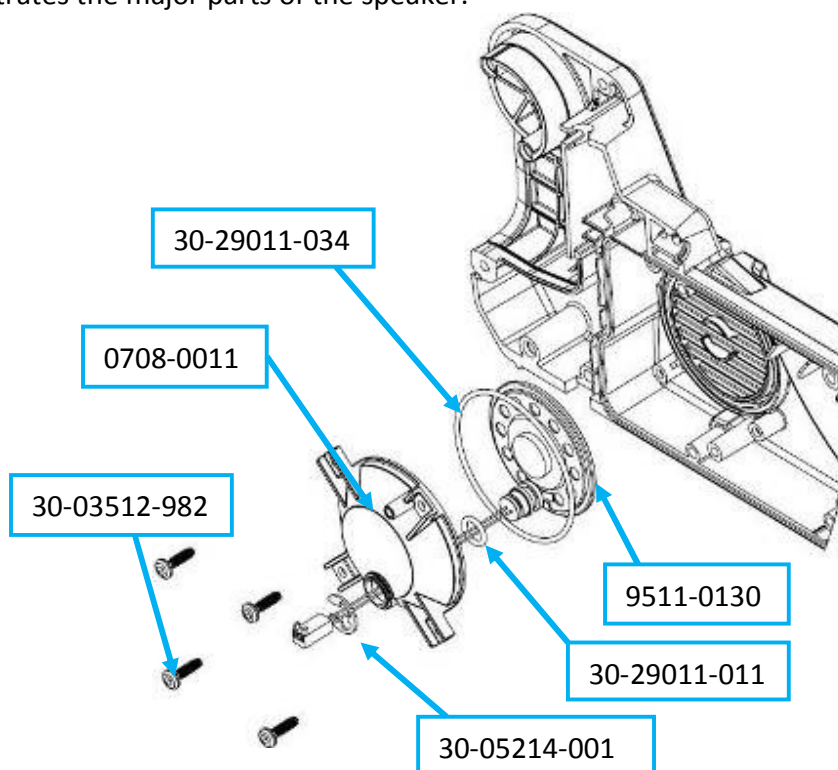

Figure 92: Speaker Kit
a. The speaker is a line replaceable unit and available as a service kit, 3004-0057 Speaker Kit. Figure 92 illustrates the major parts of the speaker.